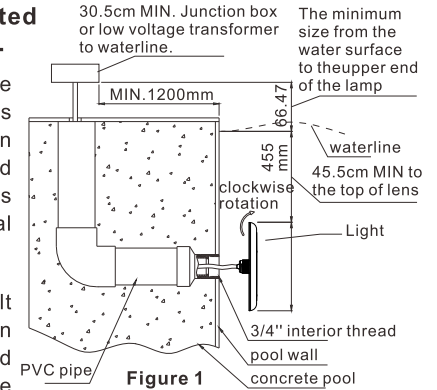

Figure 1
3. The junction box (or 12 voltage models, the low voltage transformer) must be located at least 30.5cm above the water level, 10cm from the ground and at least 120cm from the edge of the pool. See figure 1.